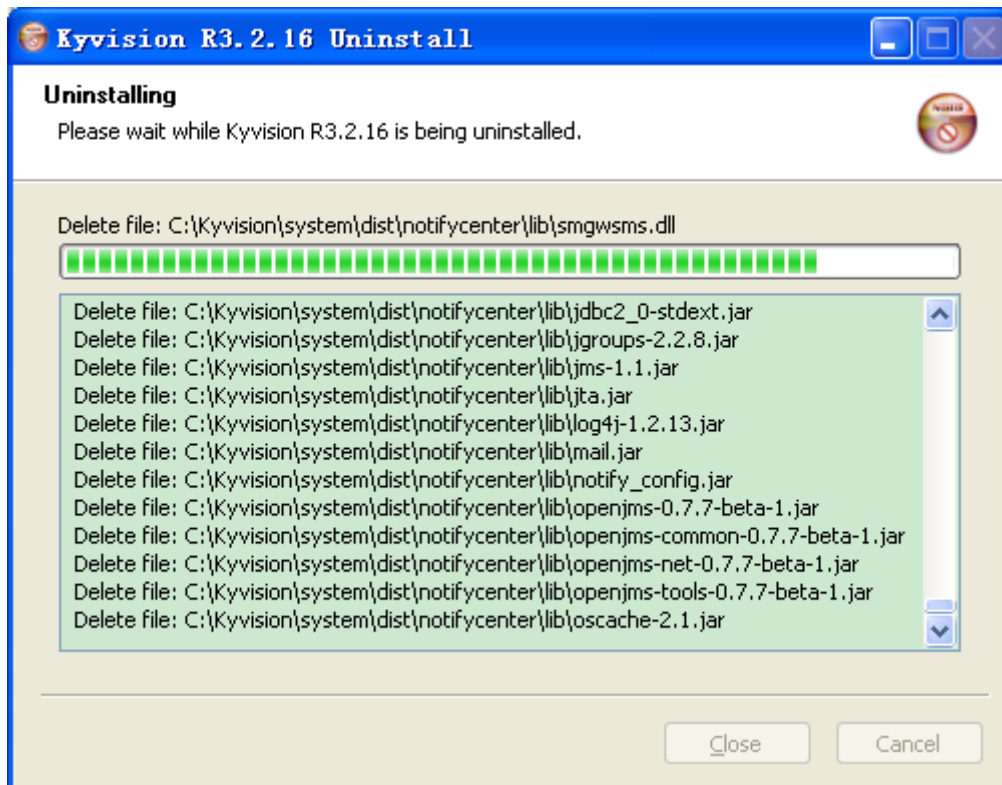

Figure 14 Uninstall Process
3.The uninstall process is displayed in the progress bar, as shown in Figure 14.